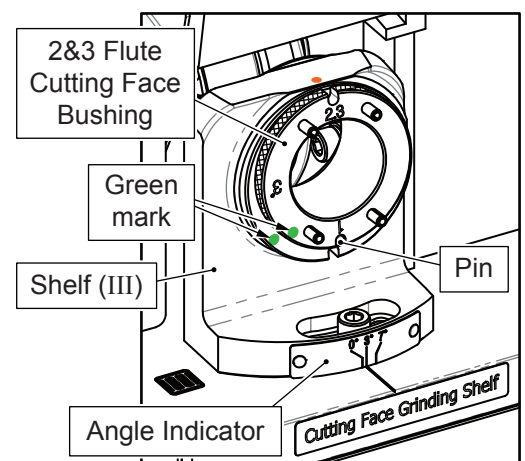

Fig. 5-17
3) Cutting Face Grinding Shelf (III) (Fig. 5-17)
- ① Adjust the Shelf (III) to 3°.
- ② Insert 2&3 Flute Cutting Face Bushing into the Shelf (III), align No.1 of the bushing to the pin on the shelf, then insert it to the end.